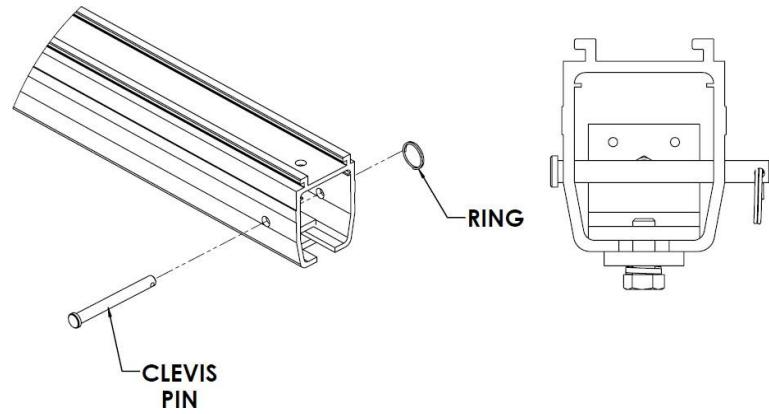

Figure 240: **Clevis Pin and Ring Installed**
- c. Install the clevis pin and ring at ends of track as shown in Figure 240.